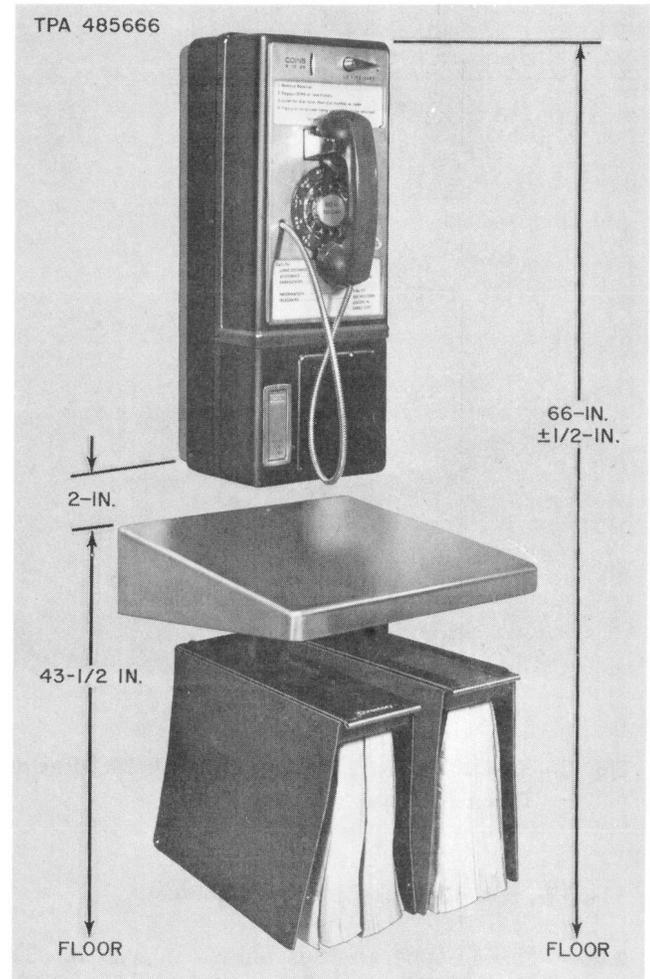

Fig. 1—KS-20029, List 2 Directory Shelf
2.01 The KS-20029 directory shelf (Fig. 1) is a stainless steel shelf for use below or adjacent to a coin telephone station.